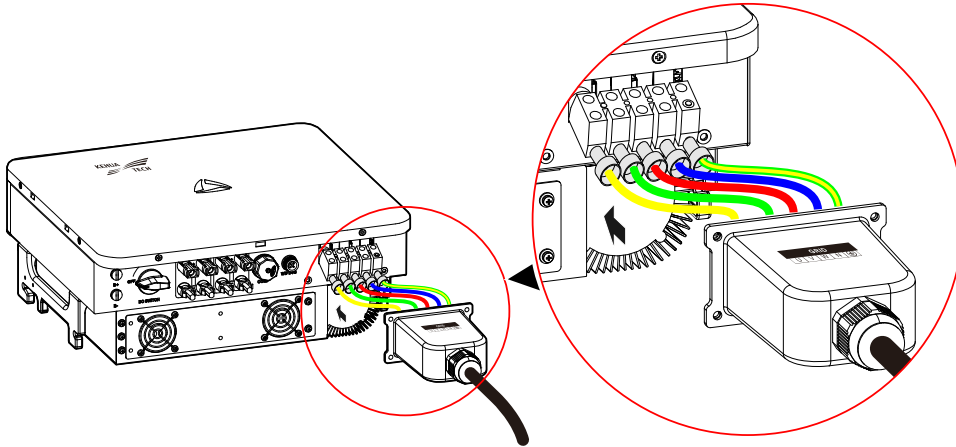

Figure3-24 Connect the AC output wire
- Step 2 Draw the AC output wire through the AC output waterproof cover, crimp them to the tube terminals, and then fasten them to corresponding wiring terminal by screwdriver, as shown in Figure3-24.